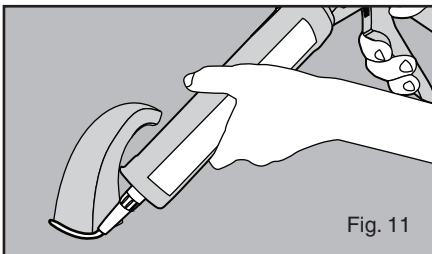

Fig. 11
12. **IMPORTANT** – Apply a bead of clear silicone caulk around the perimeter of the threaded soap discharge head after it is secure to the countertop. (see figure 11).